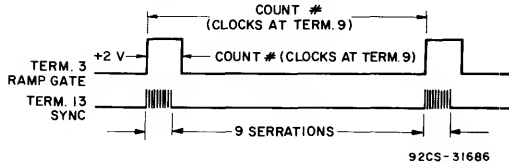

Fig. 6 — Synchronous non-coincident divider ratio and ramp gate pulse width (applies to test referenced to Note 20).
- Number of clocks occurring within ramp gate period (See Fig. 6)